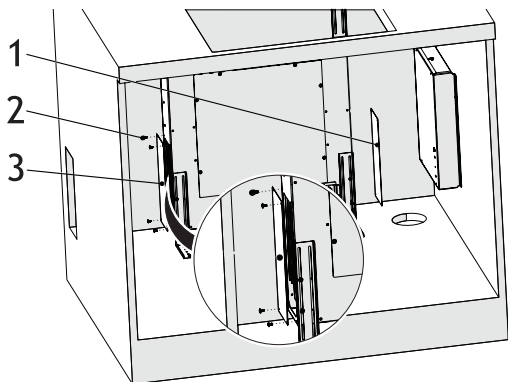

Fig. 23
11. ➔ Remove air exhaust cover plate (Fig. 23).